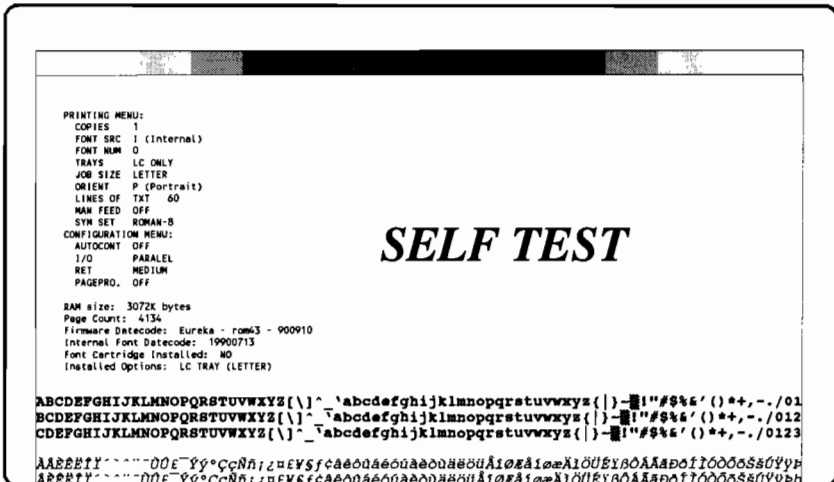

Figure 3-5. Sample Service Mode Self Test Printout
2. When 00 SMODE is displayed, hold down the **STOP** key and click the **Print Fonts** key (**Print** key on LaserJet IIP). 05 SELF TEST is displayed and a Service Mode Self Test is printed (see Figure 3-5).